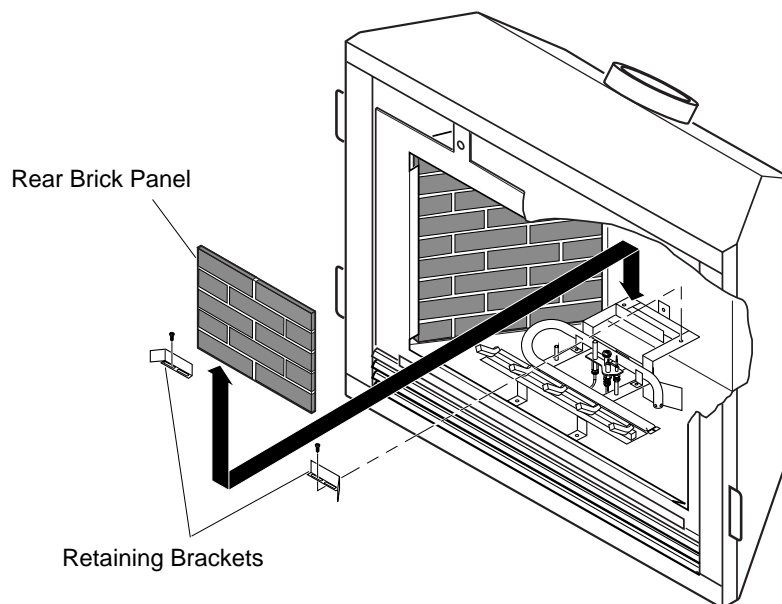

Figure 44 - Installing Rear Brick Panel and Retainer Brackets
7. Install rear brick panel. Rest bottom edge of panel on back edge of grate (see Figure 44).